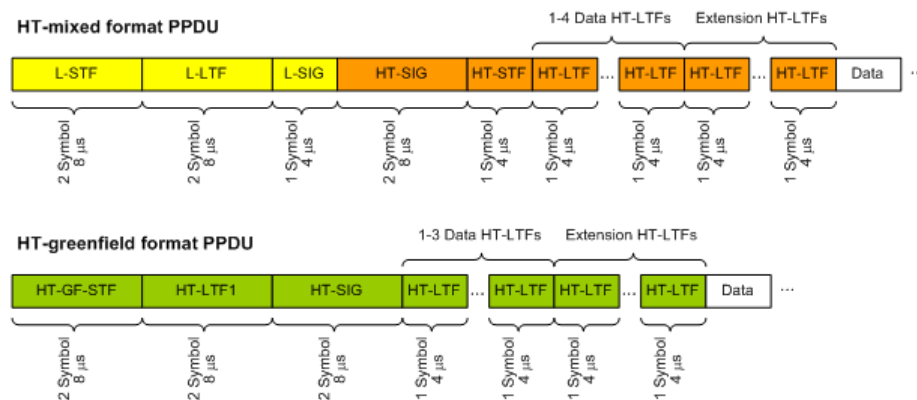

Fig. 4-4: Training fields (TF) in the preamble of PPDUs in IEEE 802.11n standard
For each space-time stream, at least one training field (the (V)HT-LTF) is included in every PPDU preamble (see figure 4-4). Each sender antenna transmits these training fields, which are known by the receive antenna. The effective channel can be calculated from the received (and known) (V)HT-LTF symbols of the preamble, without knowledge of the spatial mapping matrix or the physical channel. Thus, the effective channel can always be calculated.
(For IEEE 802.11n see also figure 4-4)